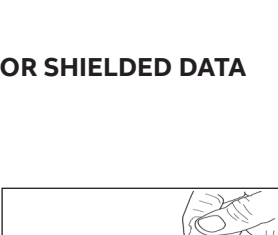

Figure 9
- Trim inner jacket (to length of 1/8"-3/8") and expose shielded conductor bundle (Figure 9).